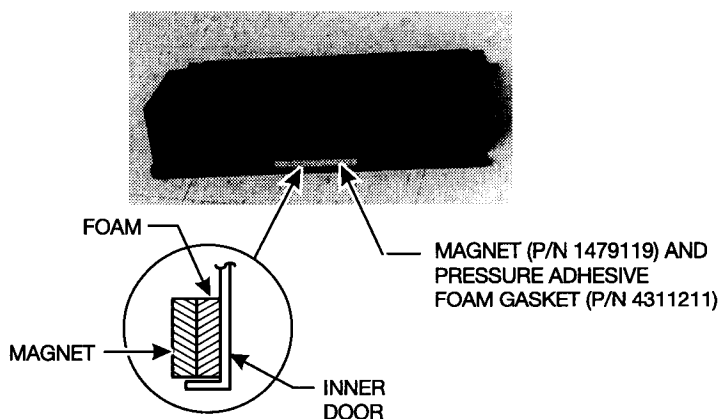

Figure 14
- c. Along the bottom forward edge of the inner door, laminate the Pressure Sensitive Adhesive (PSA) side of the magnet to the non-PSA side of a 4.5-inch piece of .125 x .50 foam gasket (4311211) and affix the foam PSA to the center of the door against the flange. **See Figure 14.**